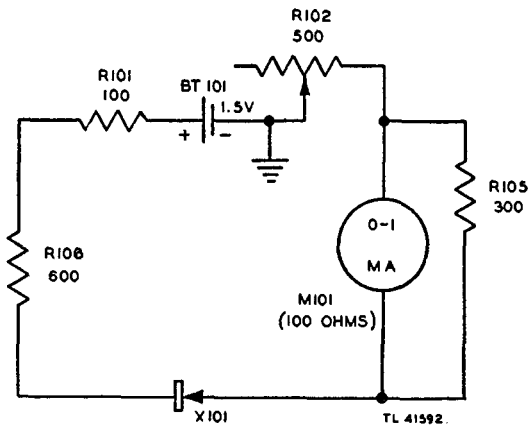

Figure 17. Circuit for backward resistance measurements, schematic diagram.
d. BACK RES Position (fig. 17). When the selector switch is in this position (position 3), the same connections are made as in *c* above, except that the connections to the crystal rectifier are reversed. The subsequent reading obtained on the meter then represents the backward resistance of the crystal rectifier.